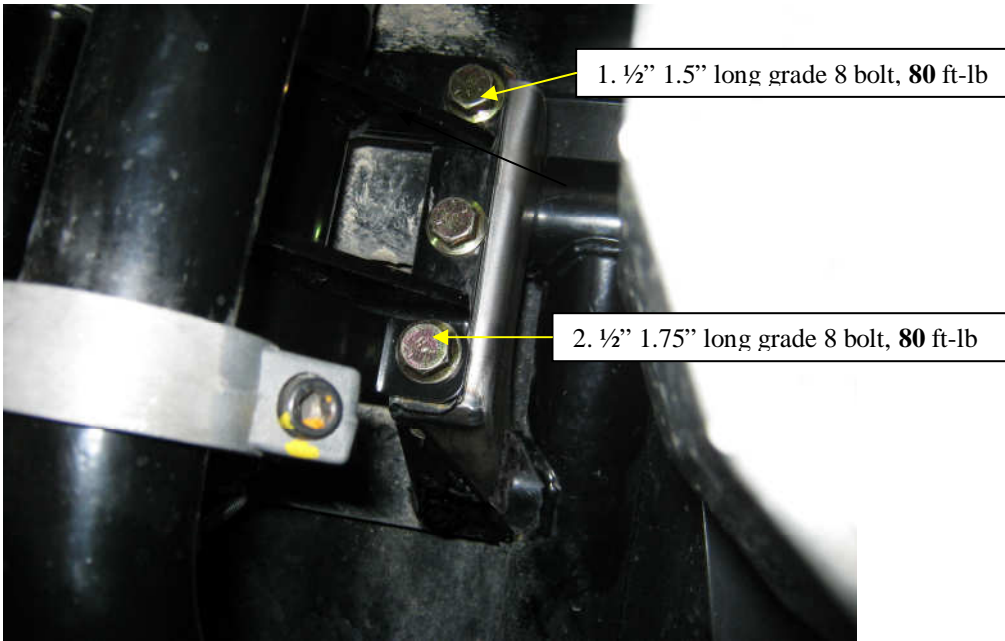

Figure 19. Final fastened bolts
12. Apply **blue loctite** to all bolts. Tighten to the torque shown in figure 19.